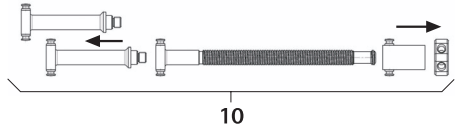

Fig. 6
- ▶ Disassemble distraction spindle **10**, see Fig. 6.